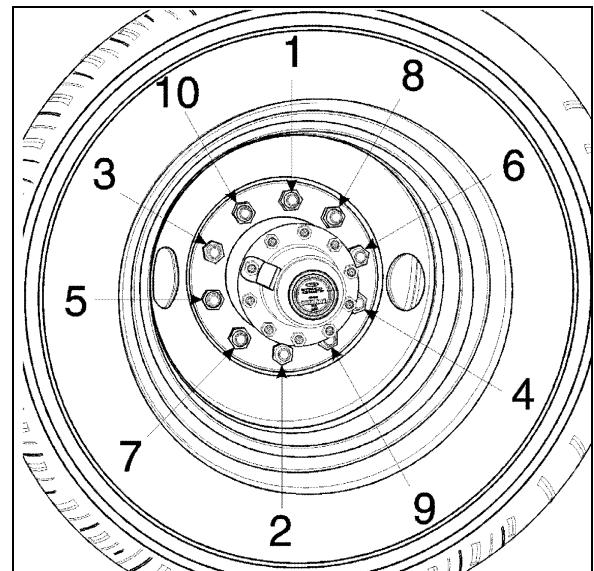
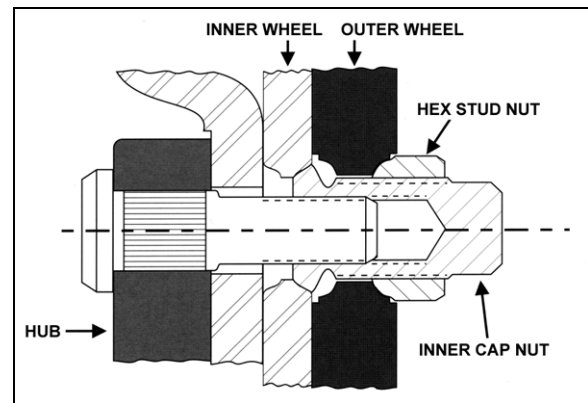

FIGURE 2: TIGHTENING SEQUENCE 13018
FIGURE 4: STUD-MOUNTED WHEELS 13007
It is also important that wheel stud nuts be tightened alternately on opposite sides of the wheel. Refer to Figure 2 for the suggested tightening sequence.
Tighten stud nuts progressively as shown in Figure 2. The final tightening should be done with a torque wrench. Tighten stud nuts to 450 - 500 lbf-ft (610 - 680 Nm) for aluminum as well as steel wheels.
2. Screw in the hex stud nuts (refer to Figure 2 for sequence) so that wheel will position itself concentrically with hub. This is important, otherwise wheel may be eccentric with hub and will not run straight. In this initial step, slightly tighten the nuts to correctly position the wheel;
3. Tighten stud nuts progressively as shown in Figure 2. The final tightening should be done with a torque wrench. Tighten stud nuts to 450 - 500 lbf-ft (610 - 680 Nm) for aluminum as well as steel wheel.
2. Screw in the inner cap nuts (Fig. 4), so that wheel will position itself concentrically with hub. Refer to Figure 2 for sequence;
3. Tighten inner cap nuts progressively according to sequence shown in Figure 2. Final tightening should be done with a torque wrench. Tighten inner cap nuts to 450 - 500 lbf-ft (610 - 680 Nm) for aluminum as well as steel wheel.
With inner wheel installed, tighten the hex stud nuts (Fig. 4) using the single wheel installation procedure described previously.
1. Loosen a hex stud nut three turns (Fig. 4);
Repeat for each of the 10 "hex stud nut - inner cap nut assemblies" according to the tightening sequence in figure 2.
Using a calibrated torque wrench, tighten wheel nuts to 450 - 500 lbf-ft (610 - 680 Nm) of torque. Do not use power tools or long bars for tightening. Tighten wheel nuts alternately as shown in figure 2.